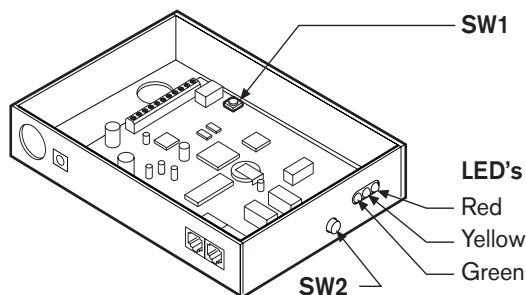

Fig. 35 Gateway Module - switches and LED's
3. Reconnect the power to the gateway. Press and hold **SW1** and **SW2** within 5 seconds of powering up, see Fig. 35.